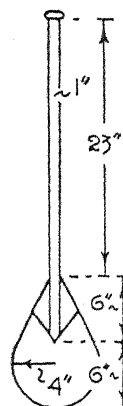

Fig. 4—The paddle
The paddle is made from a length of rim, or  $1\frac{1}{2}$  in. square oak or ash. A  $\frac{1}{2}$  in. slot is cut 6 ins. up the centre of one end for the plywood blade (see Fig. 4) which is glued and nailed in place. Side pieces of wood are affixed on both sides to the thickness of the shaft.
Fig. 4 shows a simple fork and (5a) indicates a very useful item—a candle holder for the pole. Sketch (6) shows a more elaborate and better form of the holder.